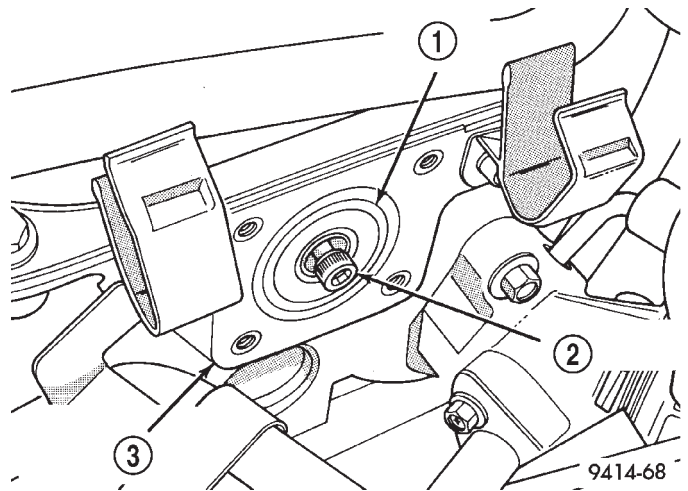

Fig. 14 Target Magnet Removal/Installation
- (1) Remove brake booster hose and electrical connector from holders on end of cylinder head cover and reposition.
- (2) Disconnect electrical connectors from camshaft position sensor.
- (3) Remove camshaft position sensor mounting screws. Remove sensor.
- (4) Loosen screw attaching target magnet to rear of camshaft (Fig. 14).